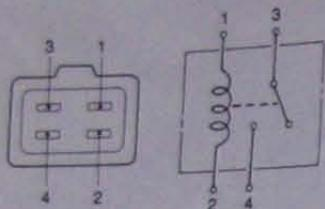

Fig. 4.27 PTC heater relay terminal identification - Aisan carburettor (Sec 16)
- Referring to Fig. 4.27 for terminal identification, connect the positive (+) terminal of a 12 volt battery to the number 1 relay terminal and the negative (-) terminal to the number 2 relay terminal. Using an ohmmeter, check for continuity between terminals 3 and 4 of the relay. With the voltage applied continuity should be present, and when the voltage is disconnected there should be an open circuit. If this is not the case the relay is faulty and must be renewed.